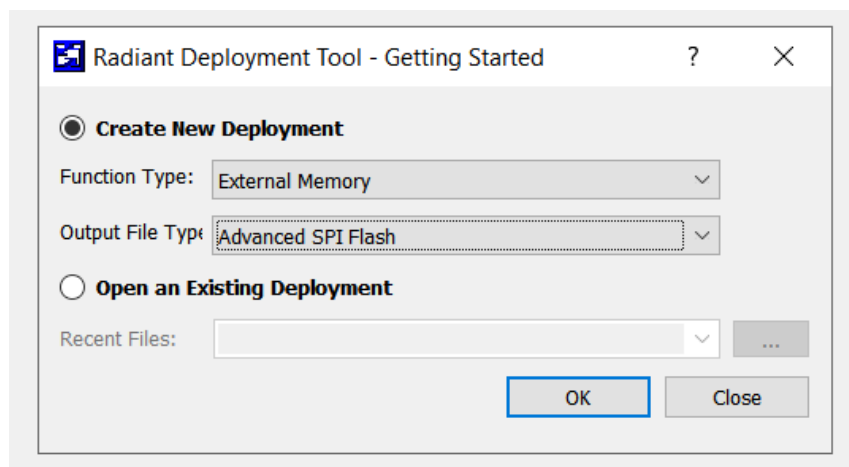

Figure B.2. Create New Deployment
2. Under **Function Type**, select **External Memory** and **Output File Type**, select **Advanced SPI Flash** as shown in Figure B.2.